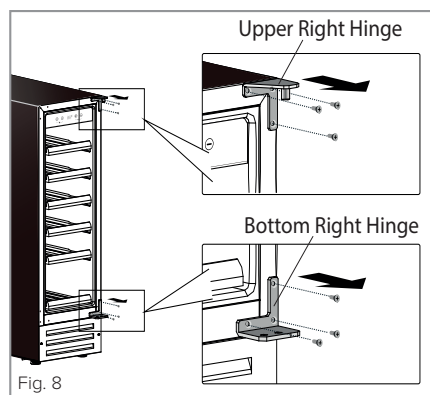

Fig. 8
3. Remove the three screws from both the upper hinge and the lower hinge, taking care not to let them fall, as per Fig. 8. Remove the hinges and place them somewhere safe in case they are needed in the future.